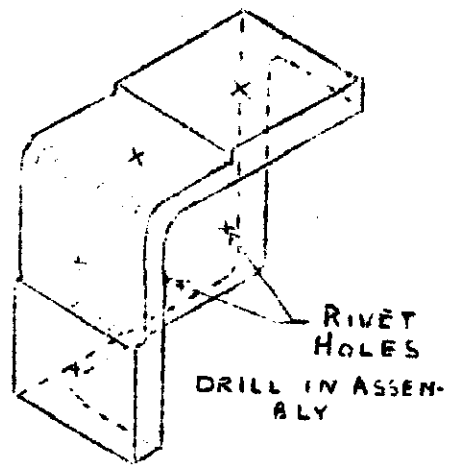

FIG. 3
3. Make machined aluminum corner, See Fig. 3 fittings to plug up holes between ribs, skins, spars, plates, etc. Use shims, wedges or any required shape to 100% plug all holes, gaps, crevices, etc. Do not assume that a sealer will do the job of plugging any hole larger than 1/8" in diameter.